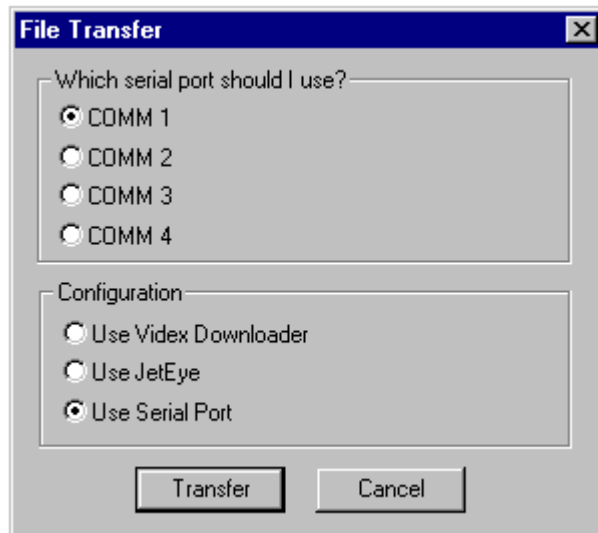

Figure 1-11 File Transfer Window
11. The **File Transfer** window (Figure 1-11) is displayed. If you are using a Base Station, select the serial port it is connected to and the **Use Videx Downloader** configuration. If you are using an external IR station, select the serial port it is connected to and the **Use Serial Port** configuration.